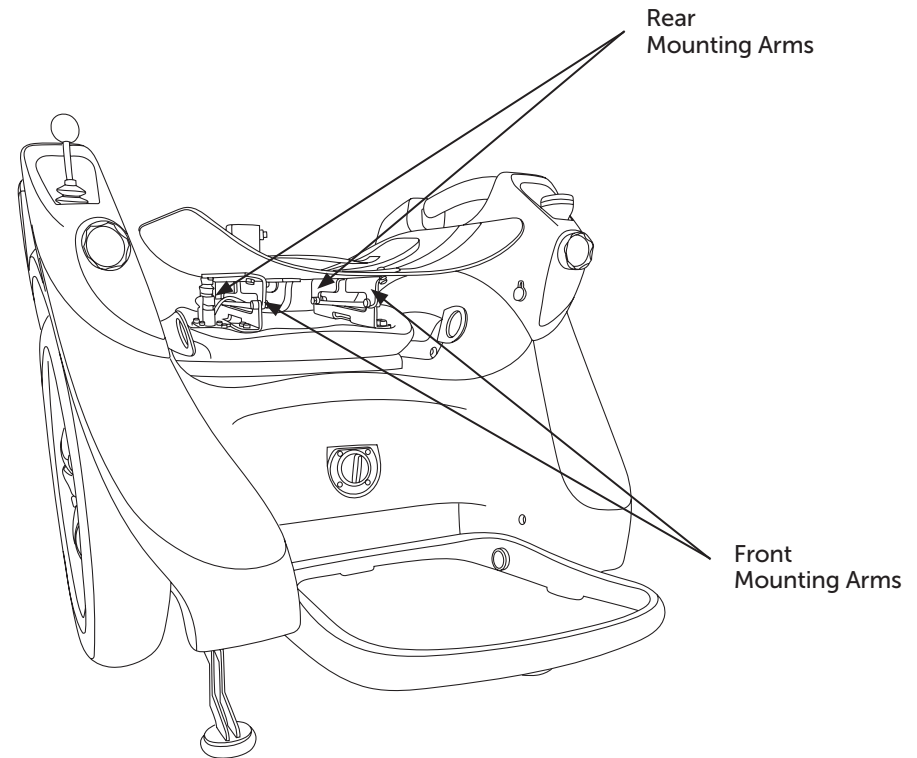

Figure 45: The Omeo Seat showing the Mounting Arms.
3. Using the 5mm Allen key and 10mm Spanner provided, loosen the 4 screws on the Mounting Arms (as located in **Figure 45**). This will allow you to move the Mounting Arms (brackets) up or down to suit.
1. Adjust the Footplate height by using the Allen Key No.6 to undo the Footplate pivot bolts (Figure 45) and release the Footplate